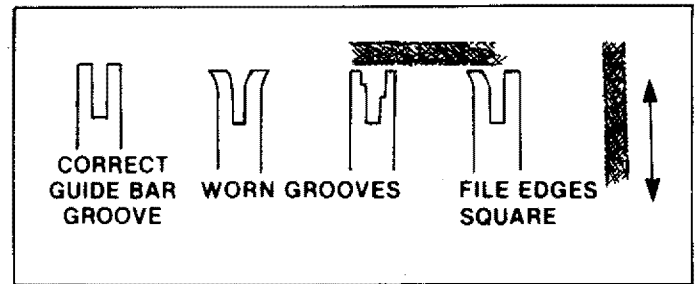

Figure 34
- Remove burrs by filing the side edges of the guide bar grooves square with a flat file. Figure 34.
- Restore square edges to an uneven rail top by filing with a flat file. Figure 34.